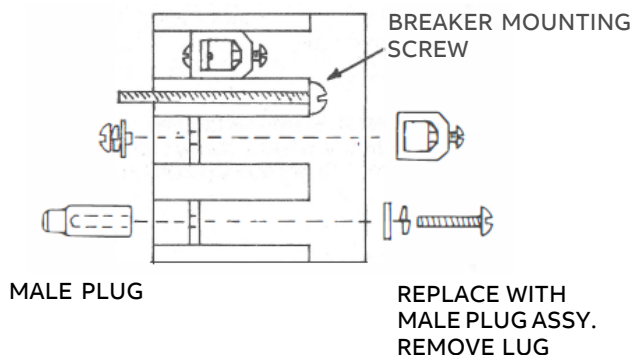

Figure 2
2. Apply grease (provided in hardware kit) to internal contacts of both line and load Plug - In Bases. Replace each lug with male plug, mounting Type TE with #10-32 x 5/8" long screw or Type TF with 1/4 - 20 x 1" long screw provided. Use flat and lock washer as shown in Figure 2. Torque screws 27-32 in-lb for TE and 40-50 in-lb for TF.